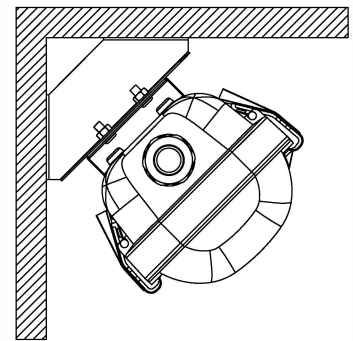

Fig 8
3. Snap Housing on Surface Mounting Brackets as shown in Figure. 8.